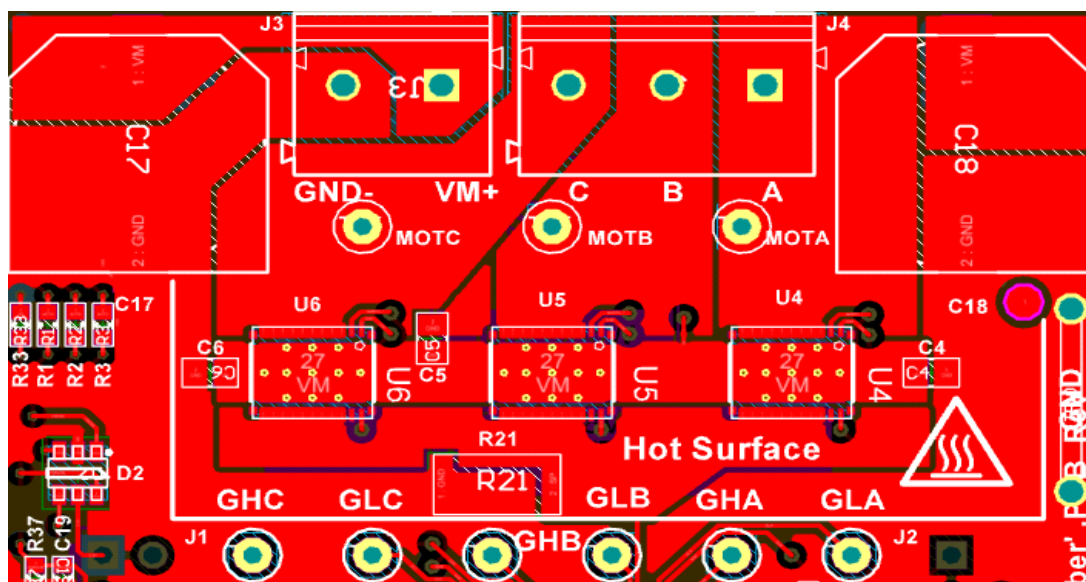

図 6-2. Top Layer
- Use the smallest drill size allowed by the design. The example in 図 6-2 uses vias with a 10mil drill hole and a 16mil solder pad.